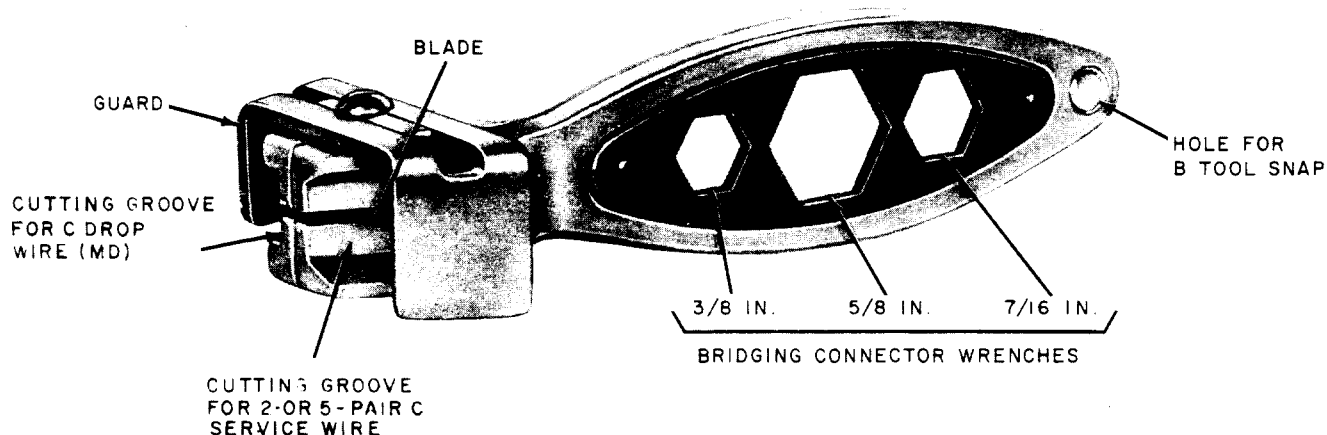

Fig. 1—C Braid Stripper
2.01 The C braid stripper (Fig. 1) consists of an integral handle and cutting head, circular blade, and a guard. The cutting head contains two grooves for various sizes of wire and a sliding guard which provides a bearing surface to press the wire against the cutting blade.